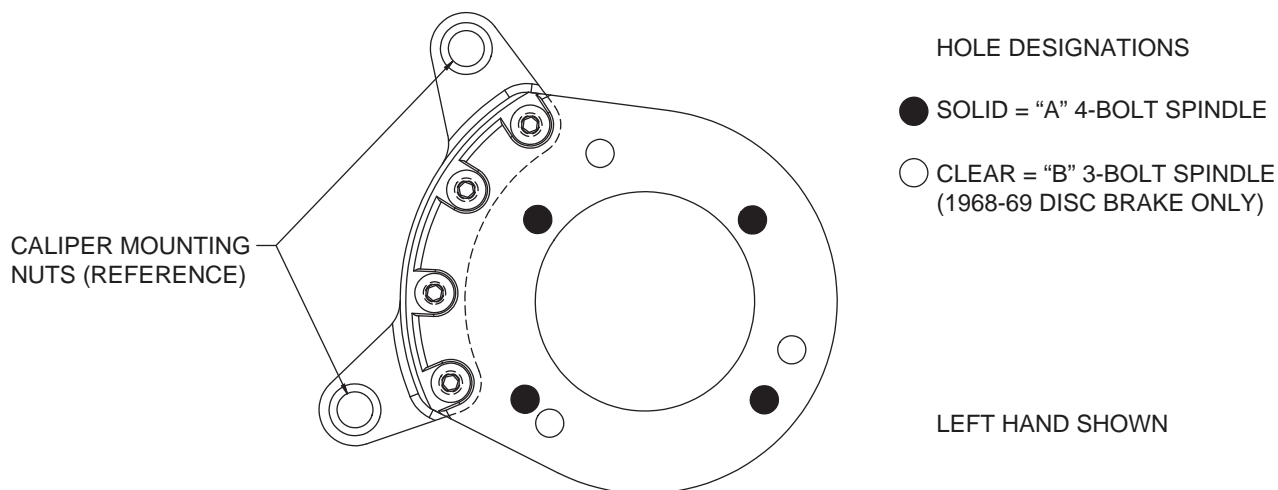
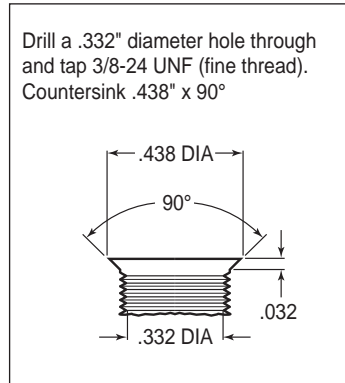

Figure 1. Wilwood Caliper Mounting Bracket
Figure 3. Drill and Tap Detail
This kit has been designed for use with both three and four bolt spindle configurations. The only difference is in how the Wilwood caliper mounting bracket is installed. The same bracket is used for both configurations; only the 1968-69 disc brake spindle utilizes three mounting holes while all other spindles use the four mounting holes (see Figure 1). For your convenience we have supplied bolt kits for both applications (see parts list and Figure 2 as necessary). Use the bolt kit that is applicable to your vehicle and disregard the other one.
**NOTE:** This modification should be performed by a qualified machinist and completed before assembly of the Wilwood disc brake kit begins. Using the caliper mounting bracket as a template (refer to Figure 1 as necessary), locate and verify the three original holes on the spindle that need to be modified. Drill a .332" diameter hole through all three holes, then tap 3/8-24 UNF (fine thread). Countersink the holes to .438" diameter x 90°, as shown in Figure 3.
•**NOTE:** This kit uses the same mounting bracket (1) for both the three and four bolt brake spindles. The 4-bolt version, Photo 1 uses four mounting bolts (designated "A"), while the 3-bolt version, Photo 2, uses three (designated "B"). Refer to Figures 1 and 2 for the basic installation position of the bracket and the "A" and "B" reference designations (not physically marked on the brackets).